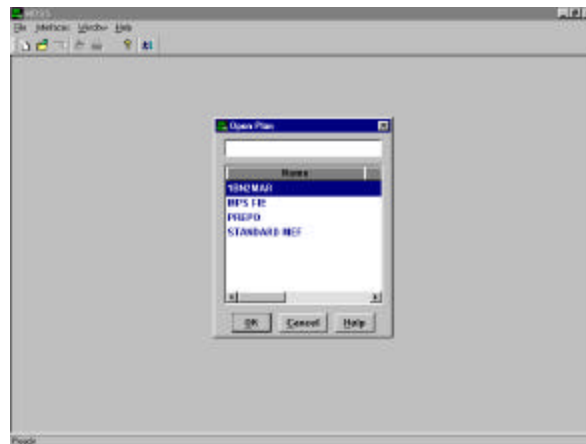

Figure 2
STEP 1. Select the Open plan option from the File menu. A list box of plans currently maintained in the database is displayed (see figure 2).